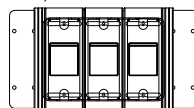

Figure 1 – Dimmer Functions
- Carefully position all wires to provide room in outlet box for dimmer. Mount dimmer into box with mounting screws supplied with the light bar facing up (see Figure 1).